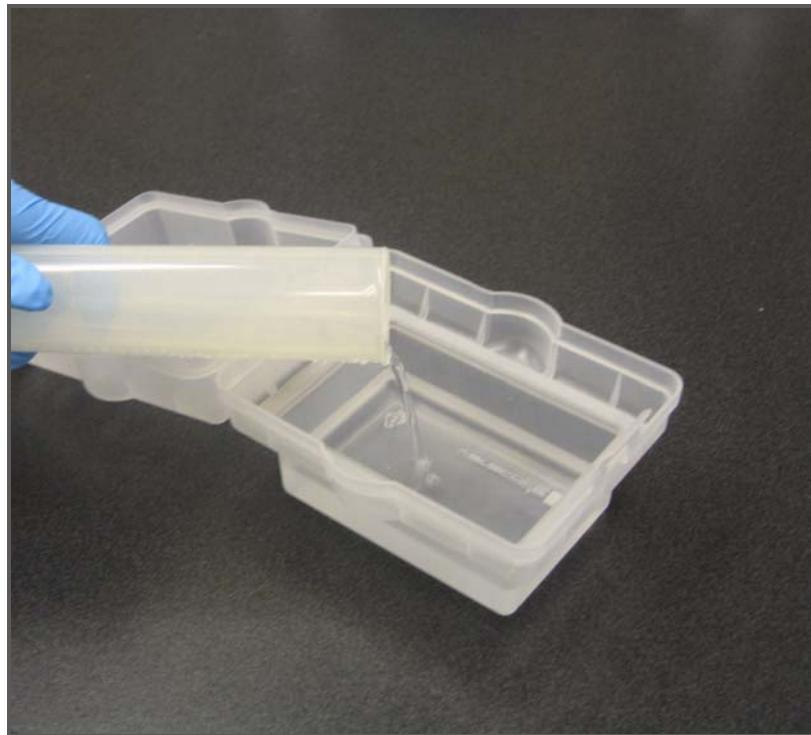

Figure 98 Add Kitting Buffer
3. Add 160 ml kitting buffer to the deep reservoir (Figure 98).